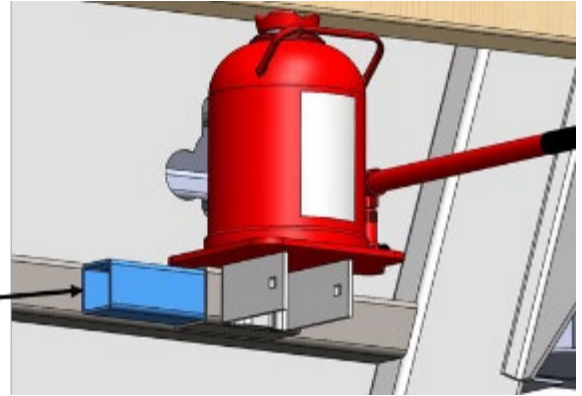

FIG. 5
STEP 6: RUN THE PROVIDED SELF-TAPPING SCREW THROUGH BOTH TUBES TO HOLD THE INSERTED TUBE IN PLACE (FIG. 5);